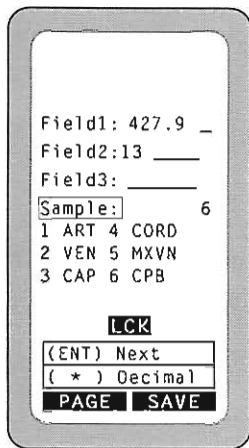

Figure 1
Step 3 - In order to obtain a CPB hematocrit result the operator must select "6 CPB" for "Sample:". After all information is entered, press the SAVE key. (See Figure 1)